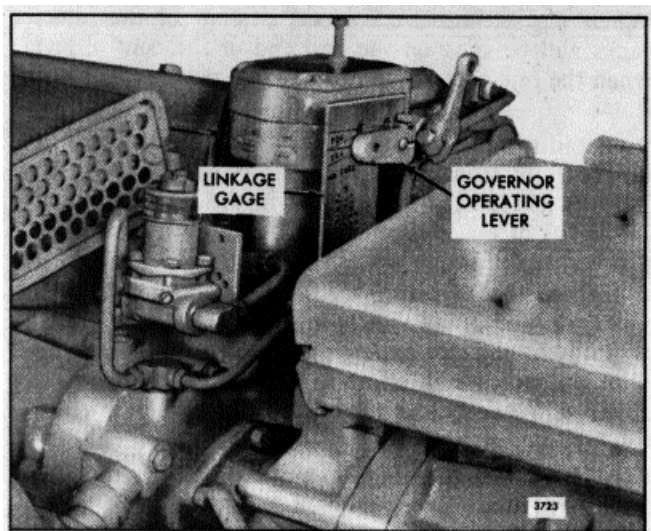

Fig. 15. - Positioning Governor Operating Lever
- 12. Replace the governor operating lever on the serrated shaft so that the bolt hole is lined up within the proper lines on the gage. The type of governor (SGX or PSG) will determine the proper position of the lever (Fig. 15).